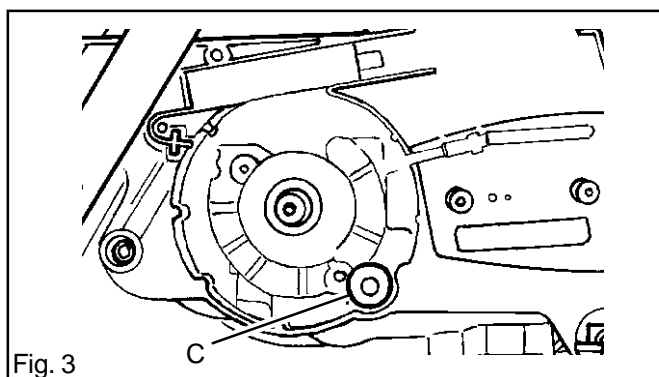

Fig. 3
6. Use pointed pliers and pull up the suction pipe (C) with filter. See fig. 3.
1. Insert the suction pipe (C) in the hole in the crankcase. See fig. 3 page 28.
- The pump unit, C in fig. 3.